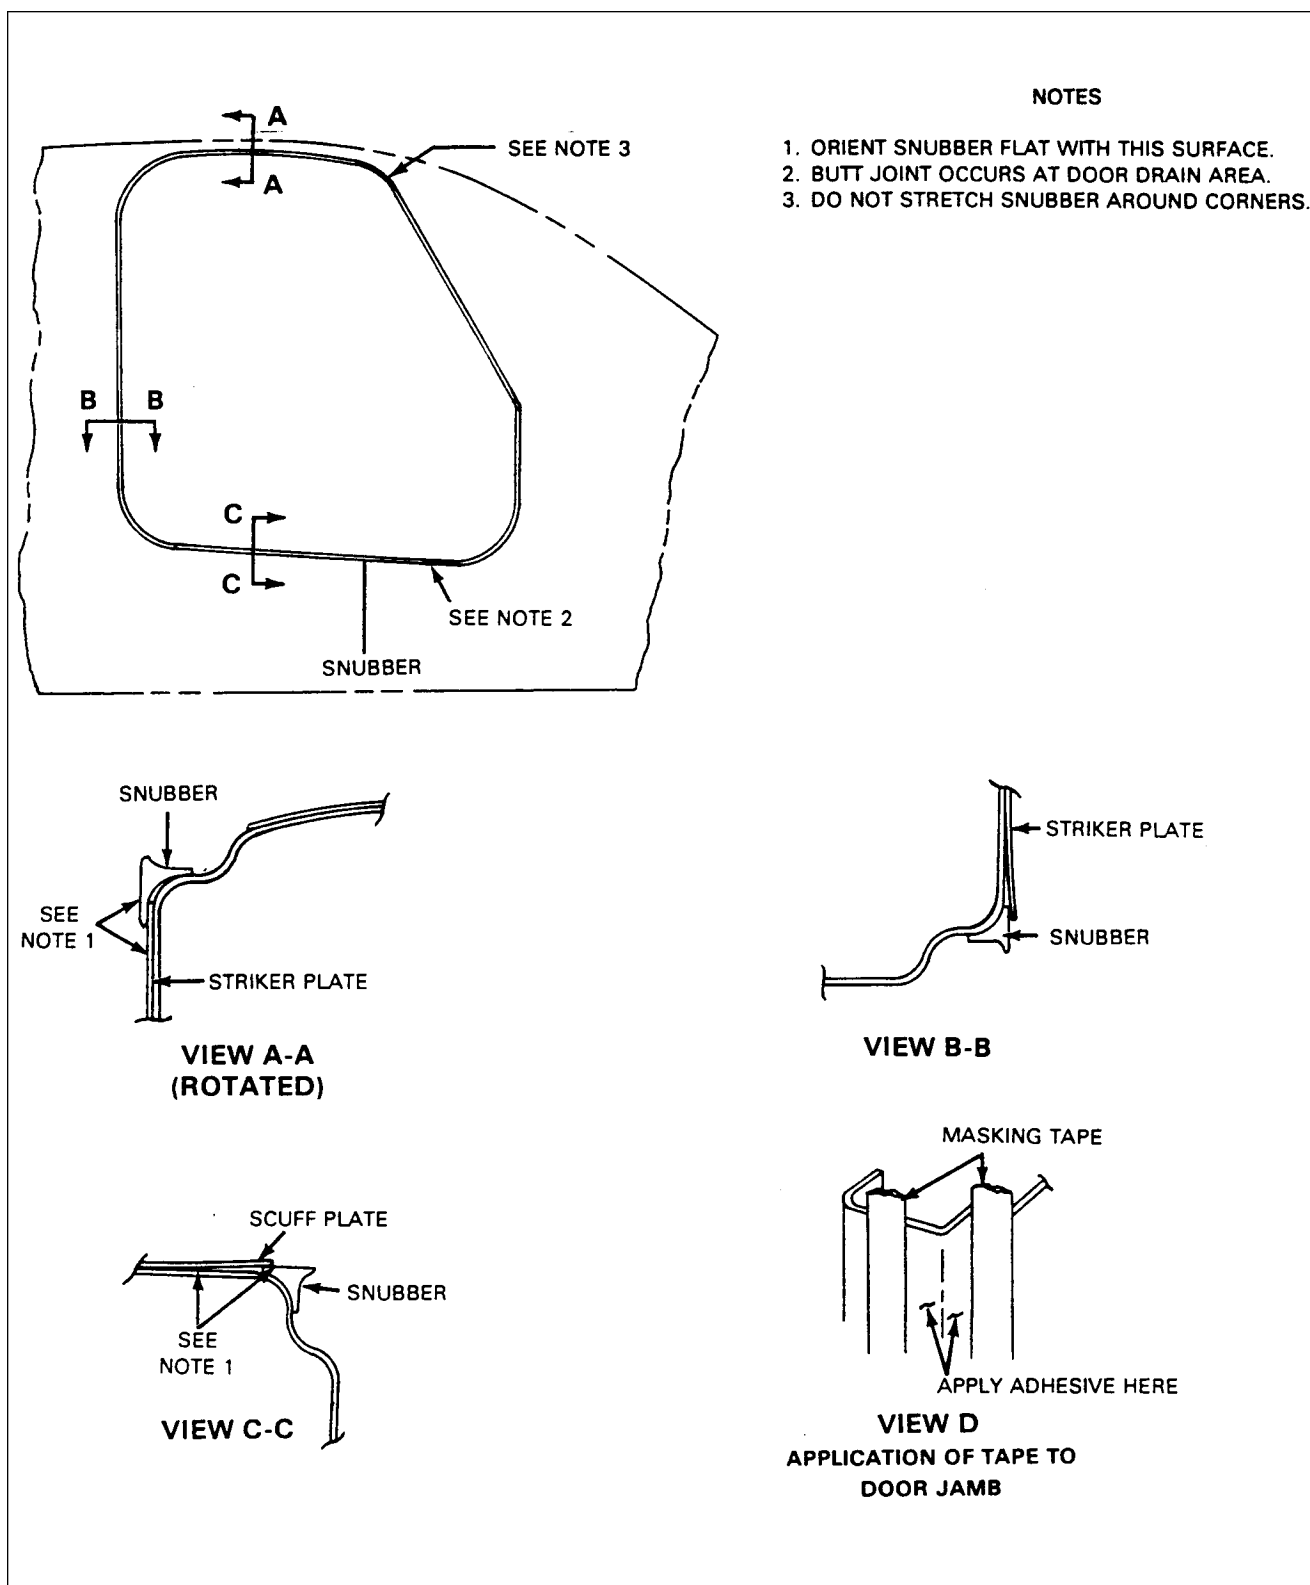

Figure 52-1. Door Snubber Installation
Make certain leg of snubber goes under striker plate for side latch and over striker plate for upper latch. (figure 52-1)
To effect a clean installation, it is recommended that the jamb be masked off as shown in figure 52-1.
- b. Apply adhesive to door jamb in area shown in figure 52-1, view D and to inside surface of snubber.